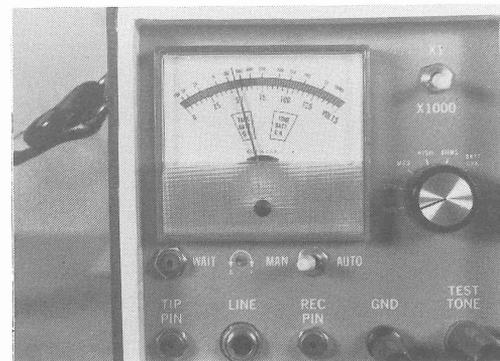

FIGURE 23
- (c) 48 Volts- Idle working line. (Figure 23)